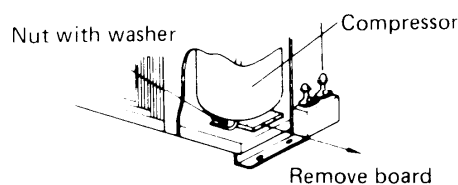

Fig. 35
- Check to see if compressor mounting bracket or board, which secures compressor during transportation, is removed. If not, remove them. Fig. 35